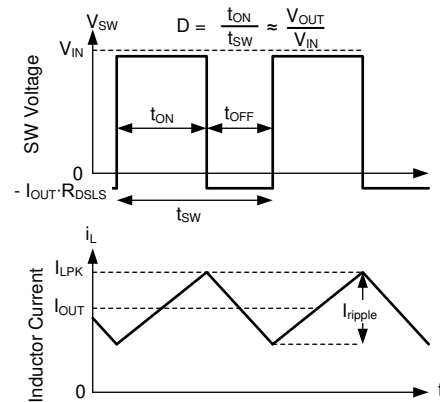

图 8-14. SW Voltage and Inductor Current Waveforms in Continuous Conduction Mode (CCM)
The following operating description of the LM61435-Q1 refers to Figure 8-2 and to the waveforms in Figure 8-14. In CCM, the LM61435-Q1 supplies a regulated output voltage by turning on the internal high-side (HS) and low-side (LS) NMOS switches with varying duty cycle (D). During the HS switch on-time, the SW pin voltage, V_{SW} , swings up to approximately V_{IN} , and the inductor current, i_L , increases with a linear slope. The HS switch is turned off by the control logic. During the HS switch off-time, t_{OFF} , the LS switch is turned on. Inductor current discharges through the LS switch, which forces the V_{SW} to swing below ground by the voltage drop across the LS switch. The converter loop adjusts the duty cycle to maintain a constant output voltage. D is defined by the on-time of the HS switch over the switching period: